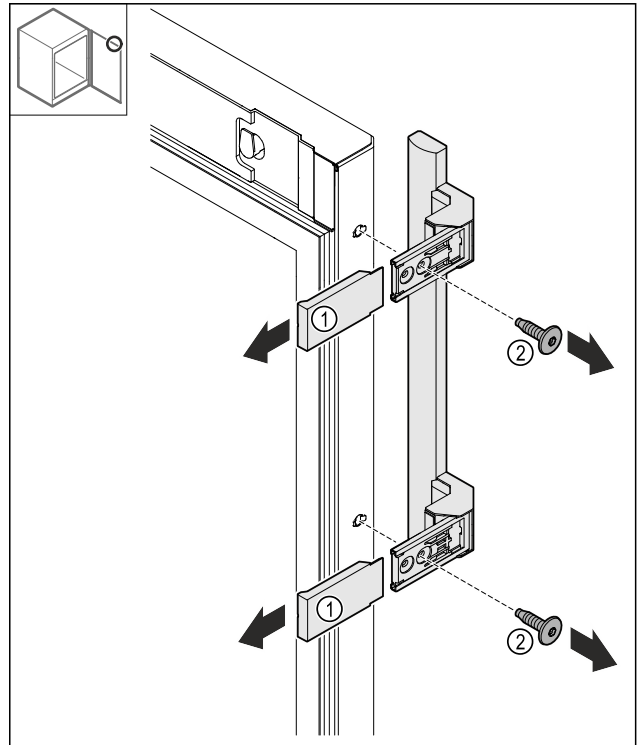

Fig. 19
- Pull off the Fig. 19 (1) covers.
- Loosen the Fig. 19 (2) screws.